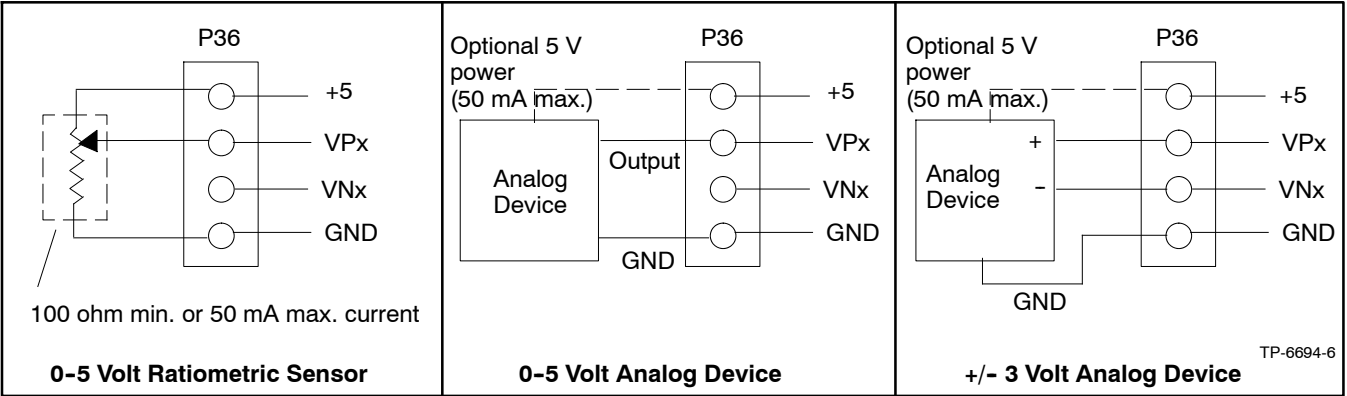

Figure 6-8 Dry Contact Kit Analog Input Connections P36
- 5. See Figure 6-8 for connections of analog inputs.
- 6. Select the normally open (NO) contacts of the relay, Form A dry contact, depending upon the application. Use a two-wire harness for the NO connections.